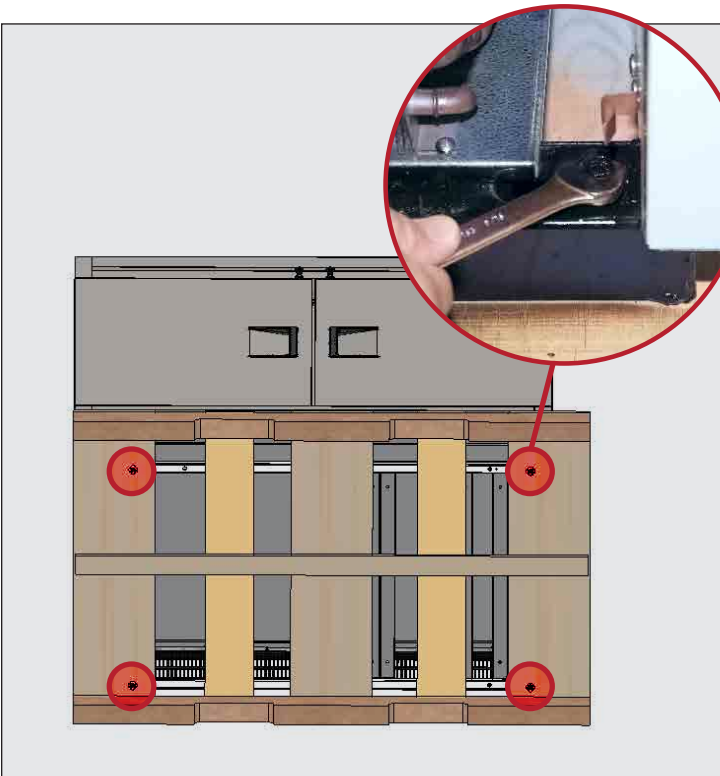

Fig. 4. Remove the skid bolts.
2. With an adjustable wrench, remove all shipping bolts securing the wood skid to the bottom of the appliance. See fig. 4.